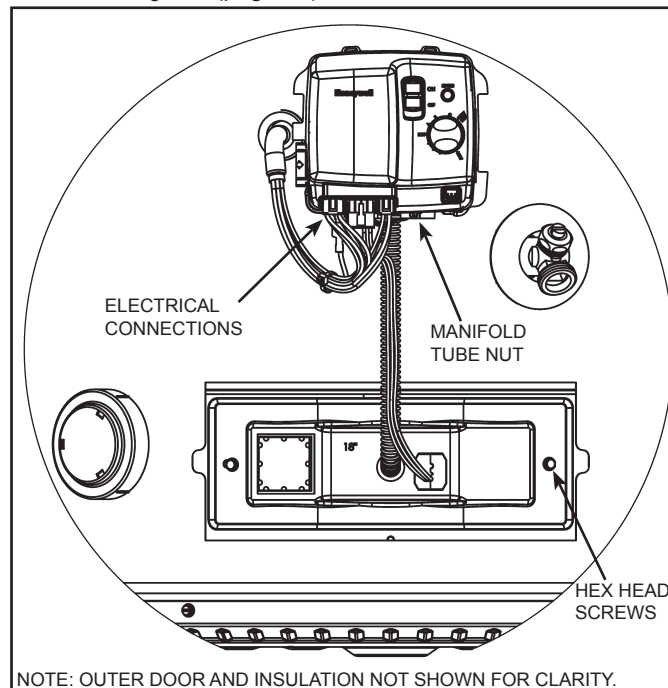
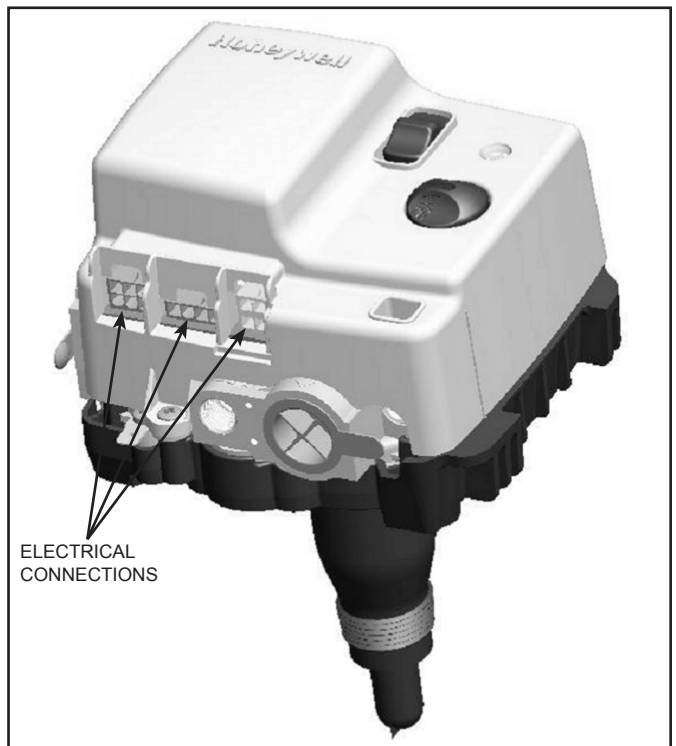
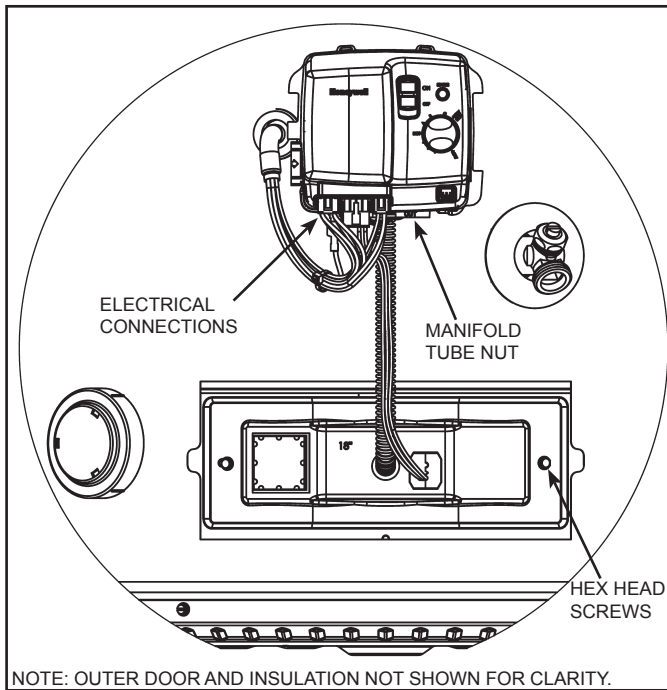

Figure 7. Electrical Connections at the Bottom of the Gas Valve
Figure 10. Electrical Connections on the Gas Valve
Figure 15. Electrical Connections at the Bottom of the Gas Valve
5. Unplug all the electrical connections from the bottom of the gas control valve/thermostat. See *Figure 7*.
6. Using a 3/4" open end wrench remove the manifold tube from the gas control valve/thermostat (turning counter-clockwise for natural gas, clockwise for LP). Grasp the manifold tube and push down slightly to free the manifold tube from the gas control valve/thermostat. See *Figure 7*.
8. Use a 1/4" nut-driver or 1/4" socket & ratchet to loosen the 2 hex head screws on the inner door so the inner door/manifold/burner assembly can be removed. See *Figure 7*.
2. After confirming no materials of any type are between door gasket and combustion chamber shield, align the screws on the inner door with the screw holes on the combustion chamber and tighten with 1/4" nut-driver or 1/4" socket & ratchet. See *Figure 7*.
Note: Do Not apply any thread sealant at this connection). To prevent any cross threading the manifold tube should be started by hand (turn clockwise for natural gas, counter-clockwise for LP). Upon tightening with the fingers and confirming it has not been cross threaded, tighten nut with a 3/4" open end wrench. See **Figure 7** (page 8).
5. Reconnect all the electrical connections to the bottom of the gas control valve/thermostat, gently pushing each connector up until it snaps into place. See **Figure 7** and **Figure 10**.
4. Reconnect all the electrical connections to the bottom of the gas control valve/thermostat, gently pushing each connector up until it snaps into place. See **Figure 10** and **Figure 11** (page 12).
5. Unplug all the electrical connections from the bottom of the gas control valve/thermostat. See **Figure 15** (page 14).
6. Using a 3/4" open end wrench remove the manifold tube from the gas control valve/thermostat (turning counter-clockwise for natural gas, clockwise for LP). Grasp the manifold tube and push down slightly to free the manifold tube from the gas control valve/thermostat. See **Figure 15** (page 14).
8. Use a 1/4" nut-driver or 1/4" socket & ratchet to loosen the 2 hex head screws on the inner door so the inner door/manifold/burner assembly can be removed. See **Figure 15** (page 14).
2. After confirming no materials of any type are between door gasket and combustion chamber shield, align the screws on the inner door with the screw holes on the combustion chamber and tighten with 1/4" nut-driver or 1/4" socket & ratchet. See **Figure 15** (page 14).
Note: Do Not apply any thread sealant at this connection). To prevent any cross threading the manifold tube should be started by hand (turn clockwise for natural gas, counter-clockwise for LP). Upon tightening with the fingers and confirming it has not been cross threaded, tighten nut with a 3/4" open end wrench. See **Figure 15** (page 14).
- Reconnect all the electrical connections to the bottom of the gas control valve/thermostat, gently pushing each connector up until it snaps into place. See **Figure 10** (page 10) and **Figure 15** (page 14).
- Note:** **Do Not** apply any thread sealant at this connection). To prevent any cross threading the manifold tube should be started by hand. (Turn clockwise for natural gas, counter-clockwise for LP.) Upon tightening with the fingers and confirming it has not been cross threaded, tighten nut with an 3/4" open end wrench. See **Figure 15** (page 14).
4. Reconnect all the electrical connections to the bottom of the gas control valve/thermostat, gently pushing each connector up until it snaps into place. See **Figure 10** and **Figure 15**).
5. Reconnect all the electrical connections to the bottom of the gas control valve/thermostat, gently pushing each connector up until it snaps into place. See **Figure 10** (page 10) and **Figure 15** (page 14).